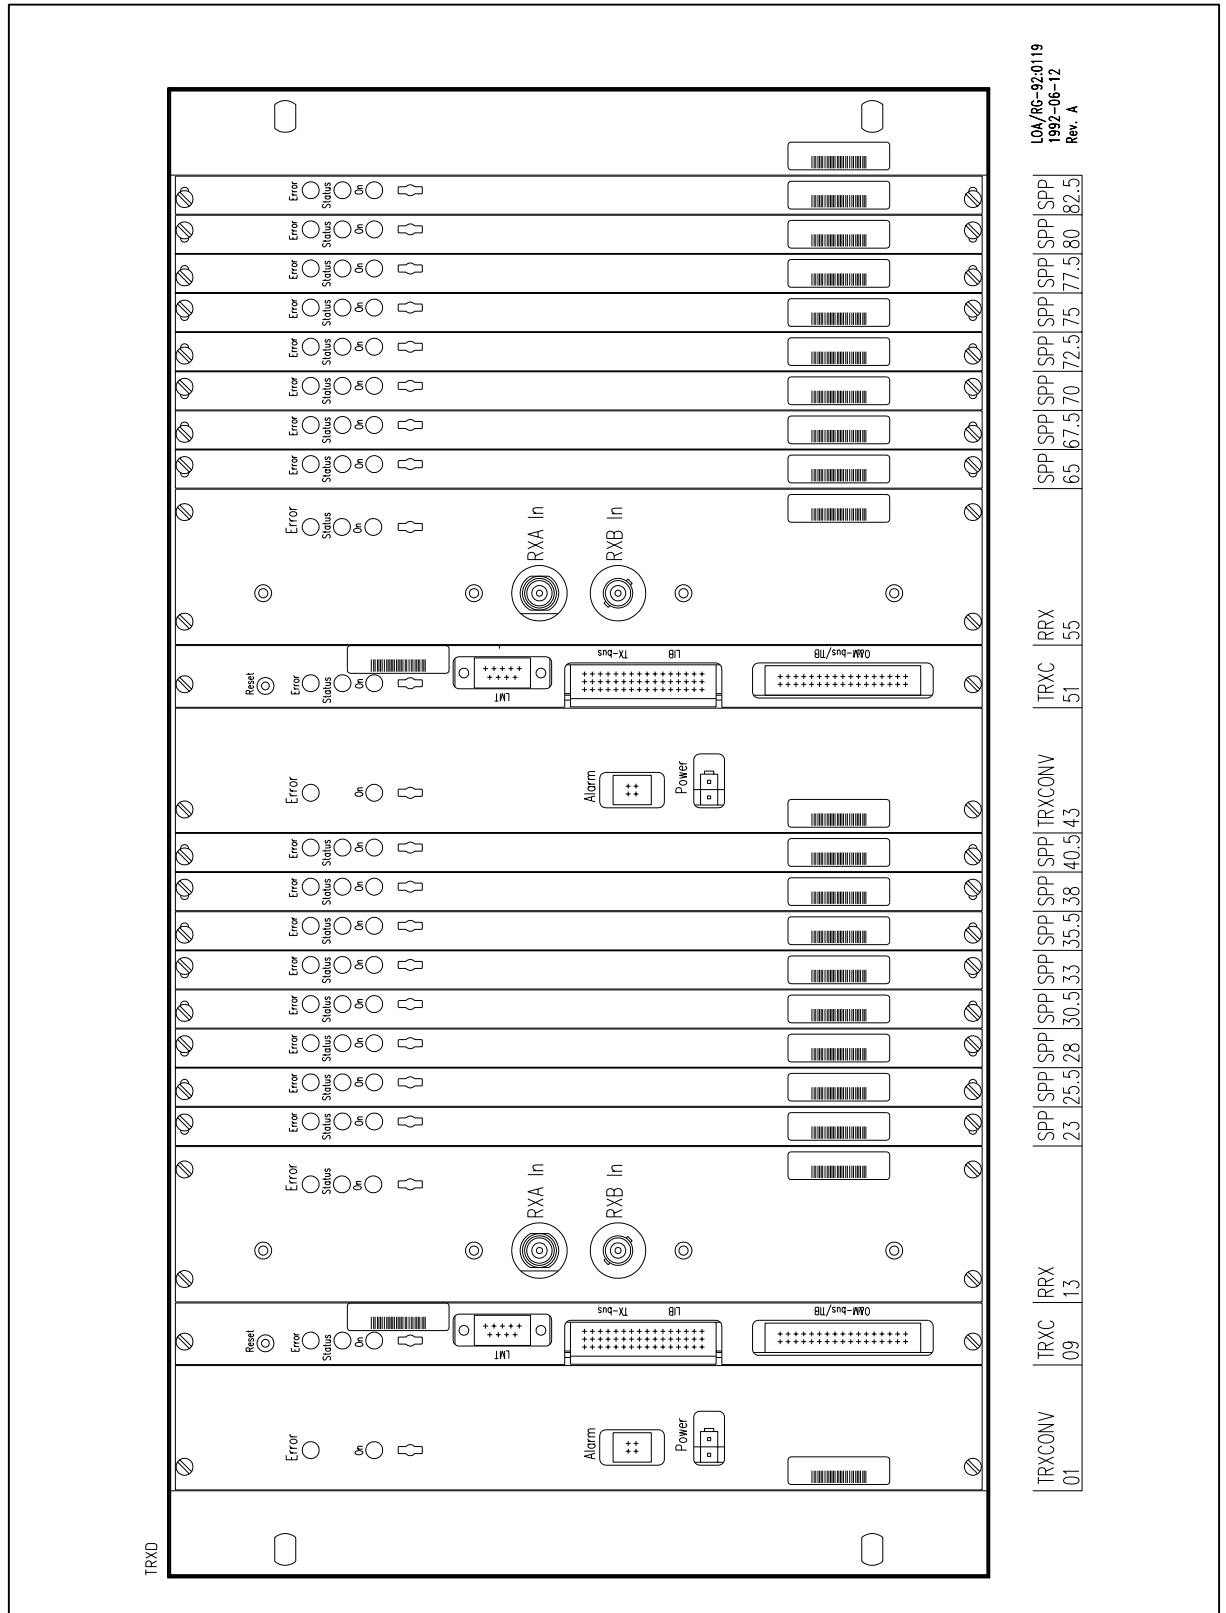

Figure 21 The TRXD magazine equipped with SPP boards
The magazine can be installed in the cabinet, pos. 04 and 06. Equip the magazine as shown in table 3 and figure 21.